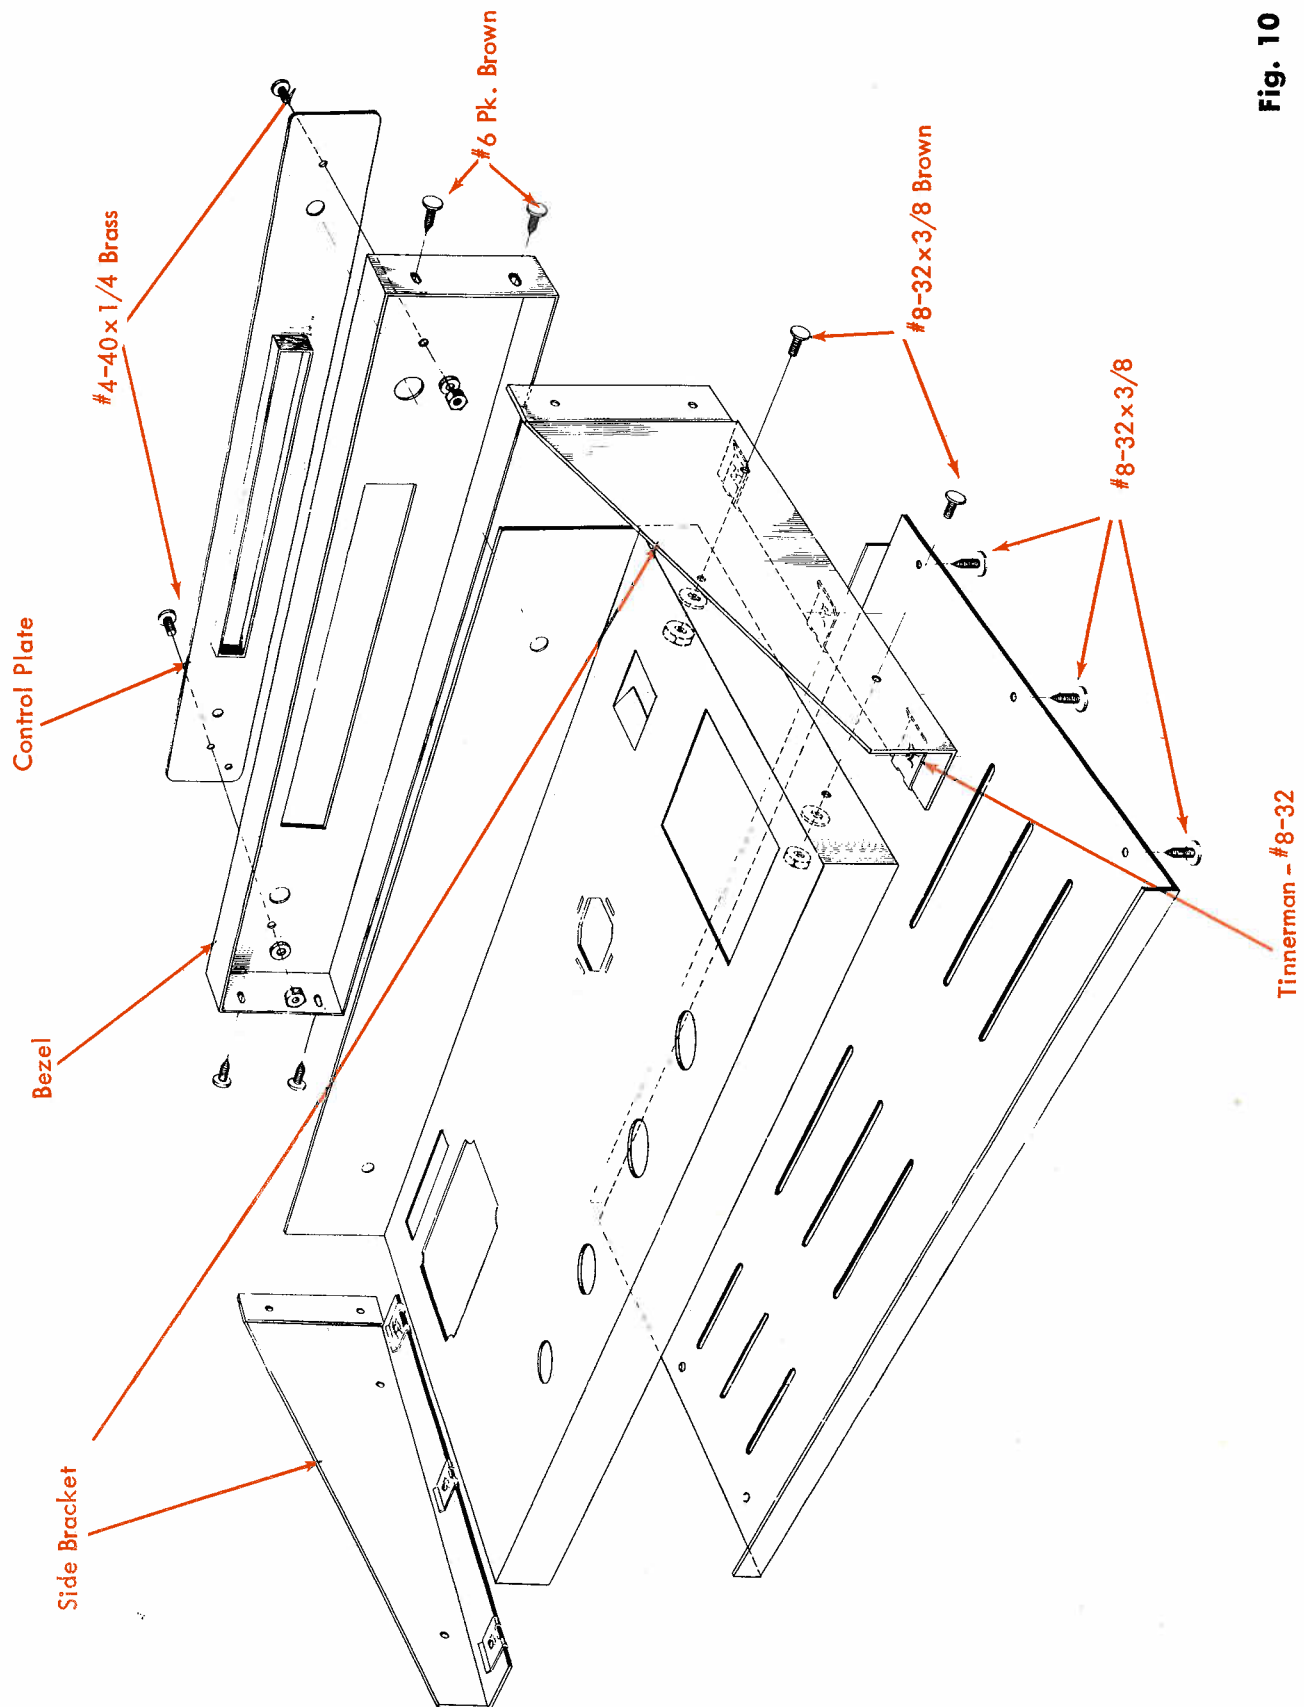

Fig. 10
4. () Fig. 10. Assemble the left and right side brackets to the chassis. Each side bracket is mounted with two #8-32 x 3/8 brown colored screws, two #8-32 hex nuts, and two #8 lockwashers.
5. () Fig. 10. On the bottom flange of each side piece, press a tinnerman #8-32 - Type J speed nut in place over each of the three holes.
6. () Fig. 10. Mount the control plate on the bezel using two each #4-40 x 1/4 brass screws, #4 lockwashers, and #4 hex nuts to fasten it to the bezel.
7. () Fig. 10. Fit the bezel and control plate over the projecting control shafts, onto the ends of the side brackets. Assemble the bezel to the side brackets with four #6 x 1/4 brown colored P.K. screws.
11. () Fig. 10. Mount the bottom plate on the bottom flanges of the side pieces, using six #8-32 x 3/8 uncolored screws. Note that the rear flange on the bottom plate fits over the outside of the rear chassis apron.
12. () Fig. 10. Install the rubber feet in the openings provided in the bottom plate. The method is to work the rounded portion of each foot into the interior of the cabinet from the outside, using a small screwdriver. The flat portion